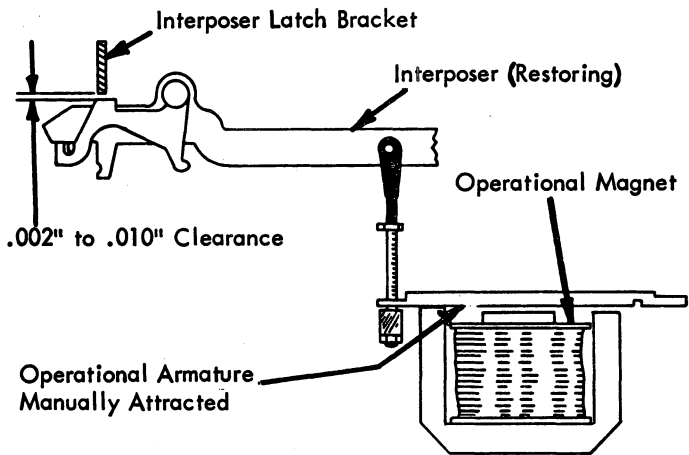

FIGURE 173.5. Check, Trip Link
4. Pull Link (Fig. 173.5) - Adjust the operational pull links so that a .002" to .010" clearance exists between the interposer latch bracket and the interposer latch at the point of relatching.